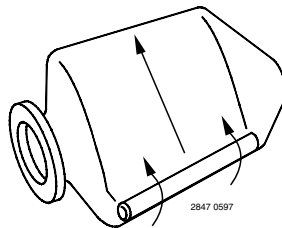

Figure 4 – Roll diagonally toward neck
- B. To get tightest possible wrap, start on one side at top and **TIGHTLY** roll bladder diagonally to other side (see Figure 4). To force out as much air as possible, be sure to roll toward bladder neck opening.